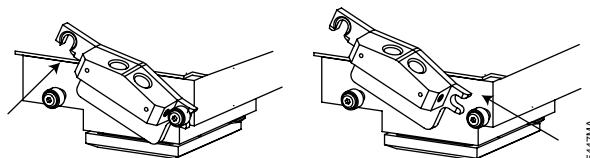

Figure 19. Removing the injector tip holder.
5. Remove the injector tip holder from the optical head. Facing the front of the luminometer, push upward, then leftward (as viewed from the bottom of the holder to release the holder from the optical head (Figure 19).